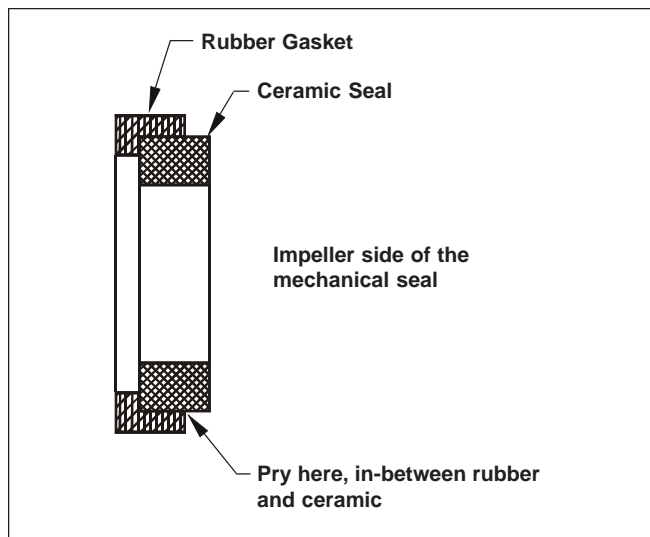

Figure 6. Mechanical Seal Replacement
2. Remove the ceramic seal from the impeller first, by prying between the ceramic and the rubber gasket working in a circle, then remove the rubber seal. Do not pry between the rubber and the plastic impeller, as this will damage the impeller (See Fig. 6).